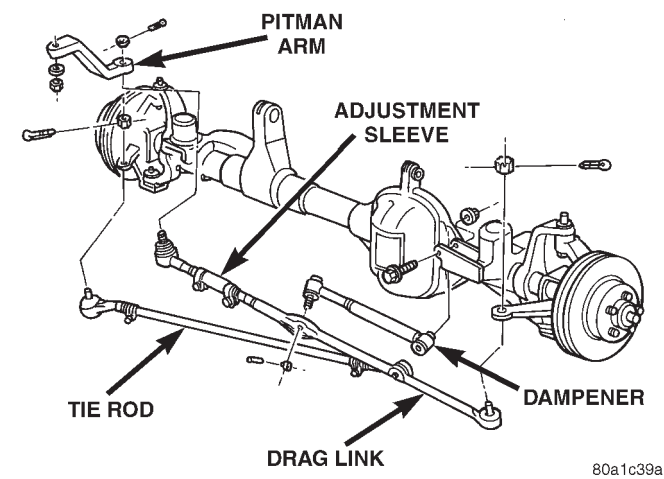

Fig. 5 Steering Linkage (RHD)
(1) Start the engine and turn wheels both ways before straightening the steering wheel. Center and secure the steering wheel.
(2) Loosen the adjustment sleeve clamp bolts (Fig. 5).
(3) Adjust the left wheel toe position with the drag link (Fig. 5). Turn the sleeve until the left wheel is at the correct positive TOE-IN position. Position the clamp bolts to their original position and tighten to: